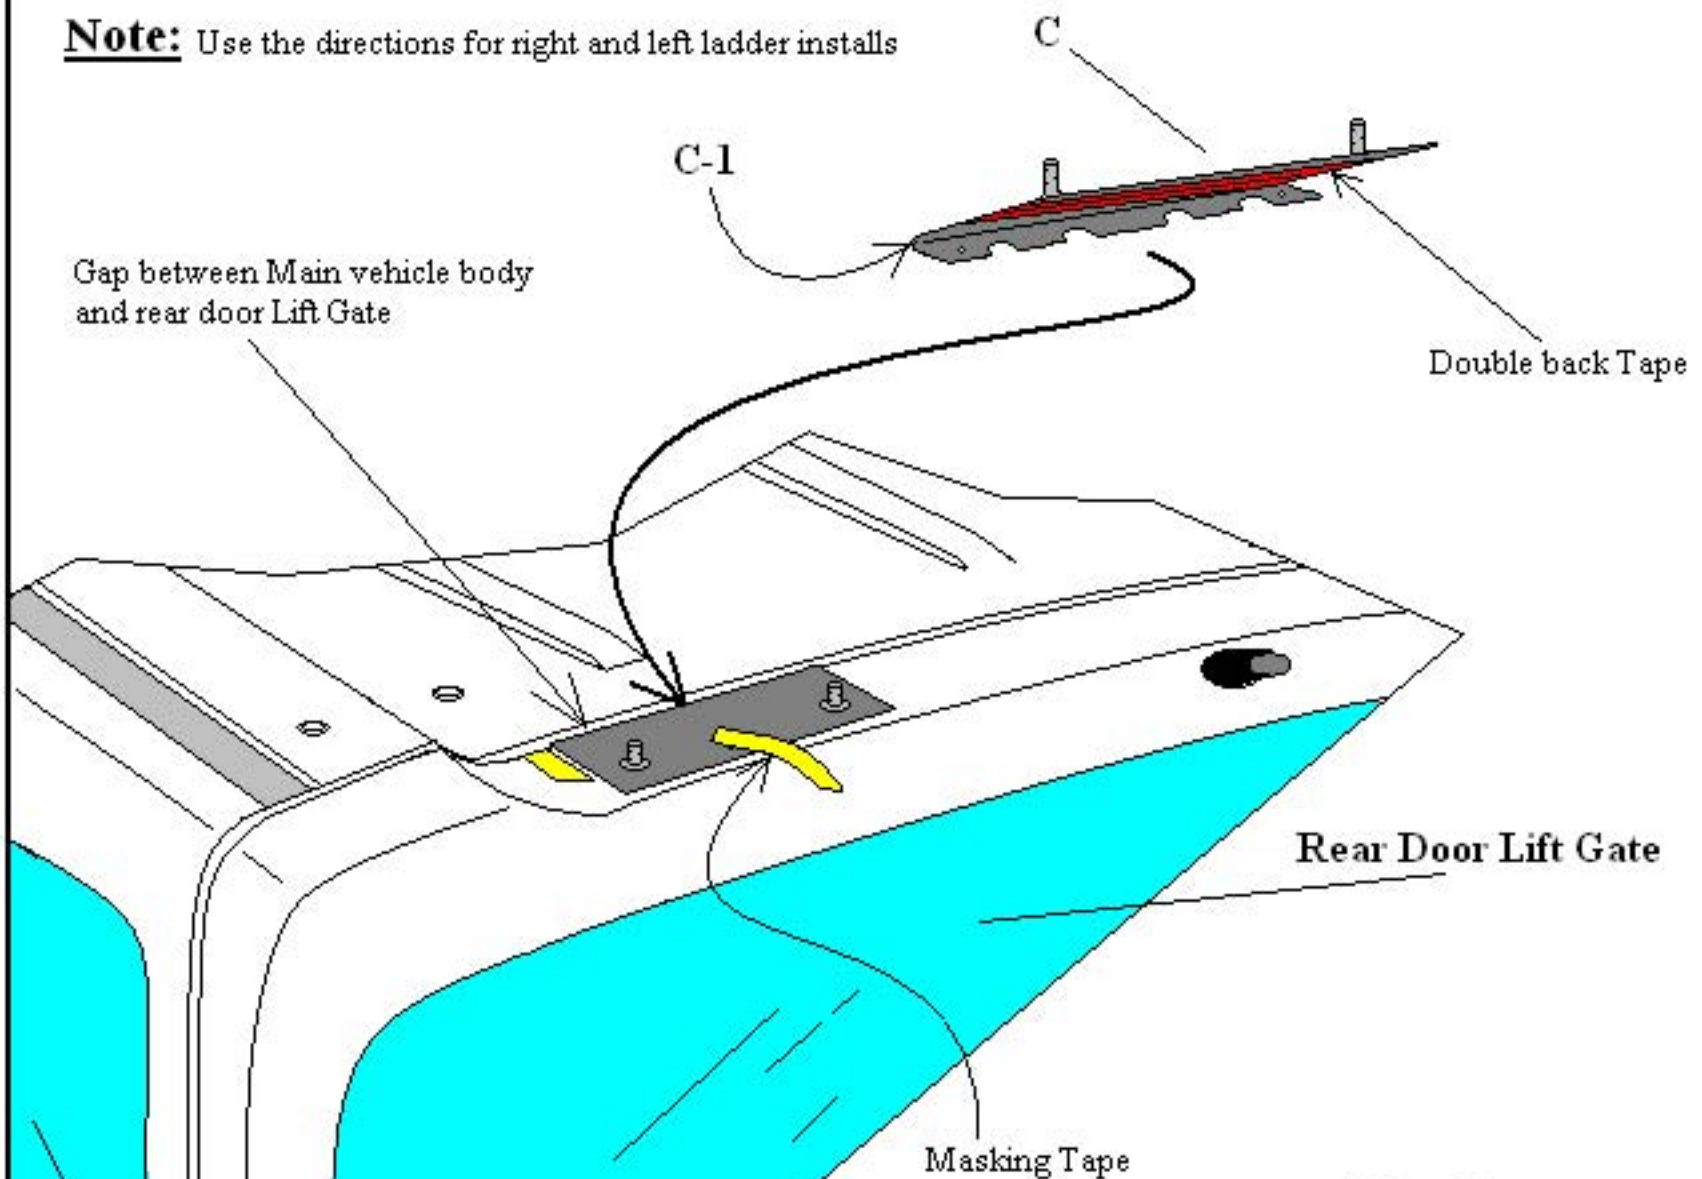

Fig. 2
- 3- Remove Ladder hanger bracket "C" supplied with your parts kit "DO NOT PEEL OFF THE DOUBLE BACK PROTECTIVE FILM AT THIS TIME" carefully slide bracket "C" as shown on page 5 Fig. 2 and Fig. 2a between the gap of the upper rear door Lift Gate and the main vehicle body. Once bracket "C" has been slipped into the gap align the left edge of the ladder hanger "C" with the masking tape mark and pull ladder hanger bracket "C" so that the inside edge "C-1" is up against the rear Lift Gate doors edge as shown in Fig. 2a page 5. Use an additional piece of masking tape to hold down bracket "C" from moving at this time.